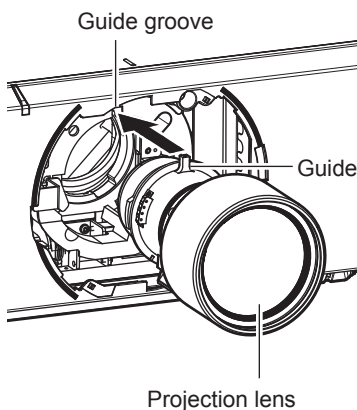

Fig. 1
- 1) **Remove the lens mount cover, and align the projection lens guide to the guide groove of the projector and insert to the end. (Fig. 1)**